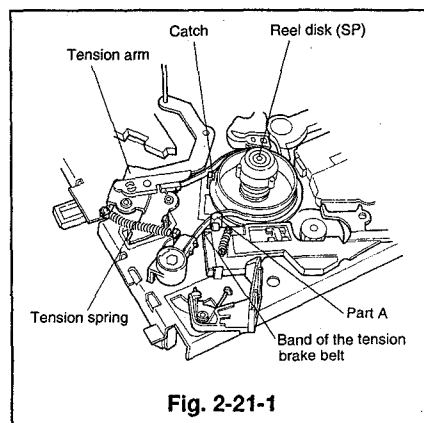
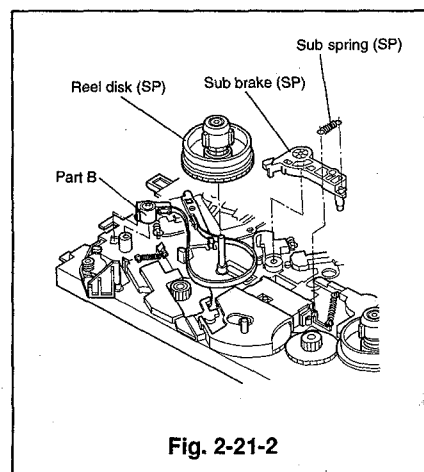

Fig. 2-21-1
Fig. 2-21-2
- 2 Remove the sub brake(SP) and the sub spring(SP). (Refer to Para. 2-14 for the removal method.)
- 3 Raise the part B of the tension brake belt upward to unfasten the belt from the supply reel disk as shown in Fig. 2-21-2. (Refer to Para. 2-19 for the removal method.)
- 4 Unfasten the catch shown in Fig. 2-21-1 and raise the supply reel disk upward to remove it from the shaft.
- 5 Fasten the tension brake belt round on the supply reel disk, taking care not to score the belt and route part B of the tension brake belt as shown in Fig. 2-21-2. (Refer to Para. 2-19 for the installation method.) (The band of the tension brake belt must pass outside of the catch shown in Fig. 2-21-1 and inside of the part A.)
- 6 Install the sub brake(SP) and the sub spring(SP). (Refer to Para. 2-14 for the installation method.)